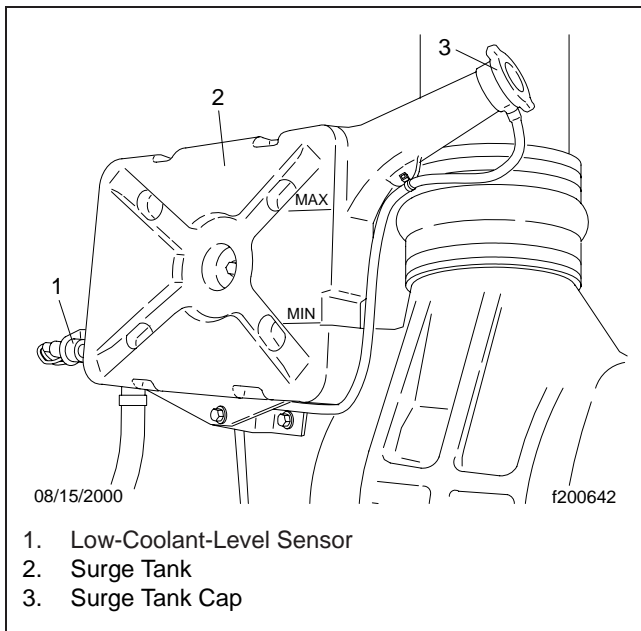

Fig 4, Surge Tank, External Coolant Level Sensor
2. Using a radiator-cap tester, check the pressure cap to see if it maintains pressure to within 10% of the pressure rating marked on the cap. If it doesn't, replace the cap. See **Fig. 4**. Make sure that the replacement radiator cap is correctly rated for the cooling system of the vehicle.